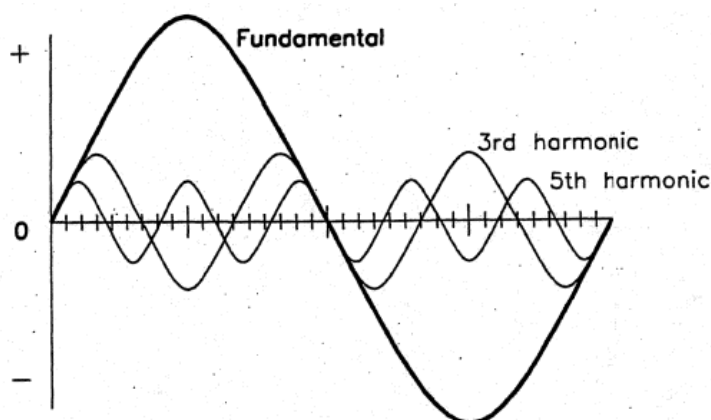

Figure 19 – A fundamental sinusoidal waveform with 3rd and 5th harmonic.
55. Figure 19 shows a fundamental sinusoidal waveform, with the 3rd and 5th harmonic.